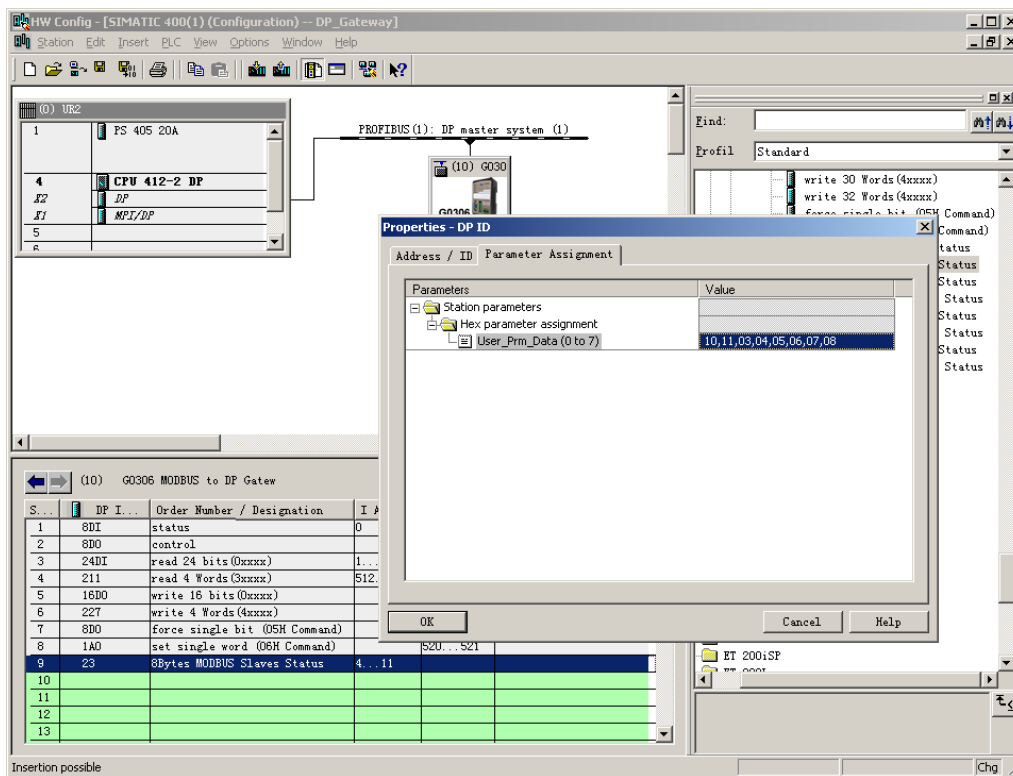

Figure 39 Configure Slave Address to Be Monitored
c) **Configure user parameters of “8Bits MODBUS Slaves Status” module, shown in Figure 39:**
As shown in Figure 39, each device corresponds to 1 byte module user parameter. In the previous example, total two slave stations (10, 11) is configured, so write the two addresses into to the module user parameter.